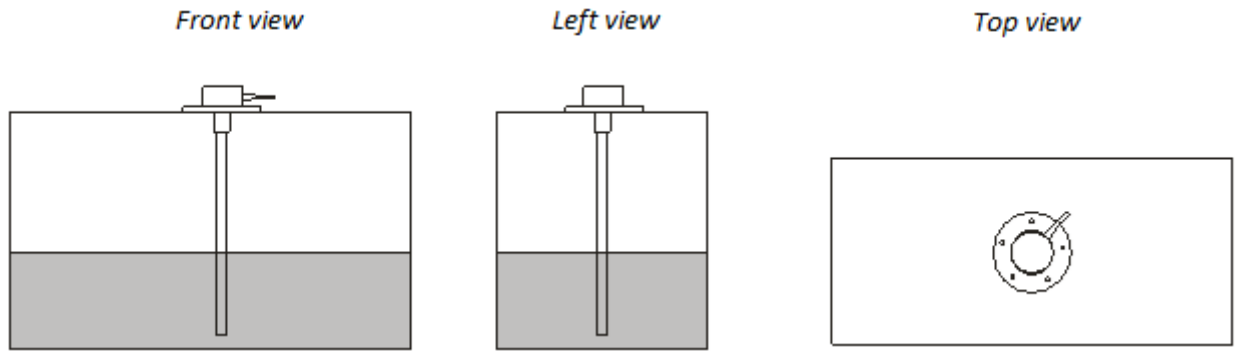

Figure 7.
- 2) In cases where it is impossible to locate the sensor in the center of the fuel tank install as close as possible to shown in Figures. 7, 8, 9.